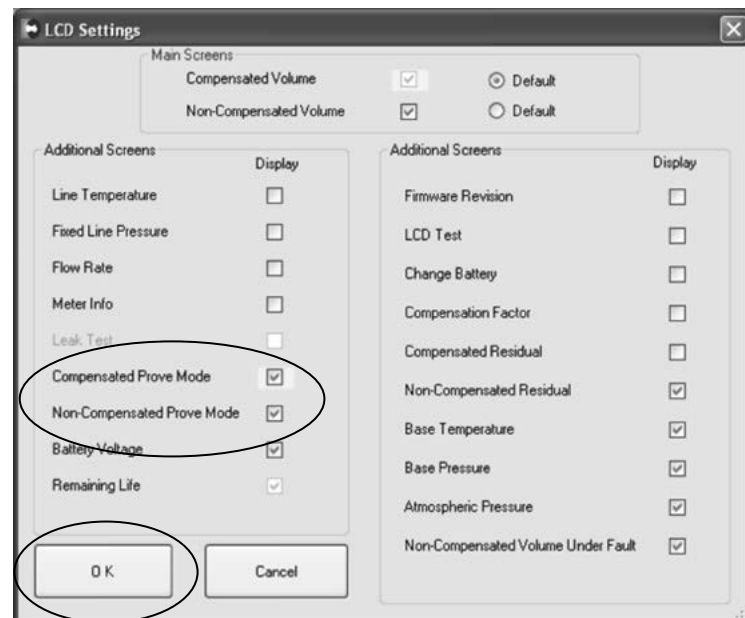

Figure 14.4 - Settings screen in Dresser MeterWare
- B. From the **LCD Settings** screen (Figure 14.4), choose either **Compensated Prove Mode** or **Non Compensated Prove Mode**, or both, and then click **OK** to return to the **Configuration** screen.